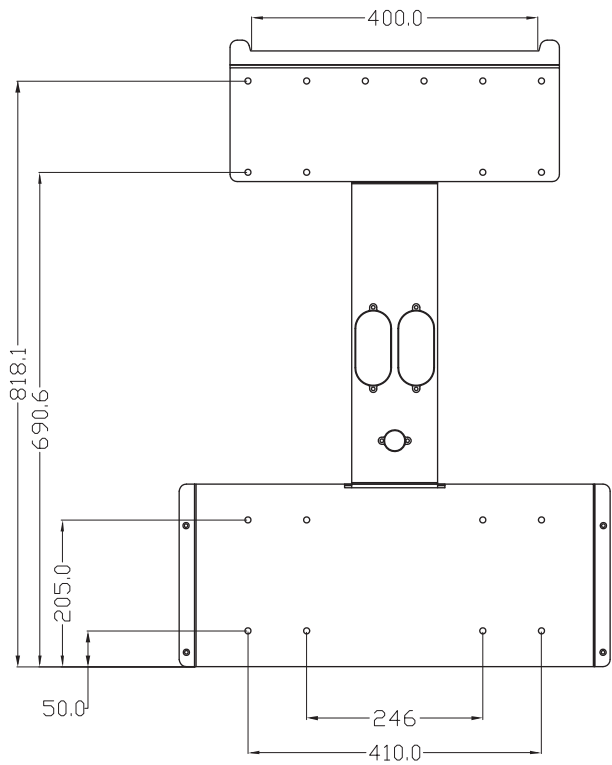

Figure 3-1 : Mounting bracket dimensions
This unit is designed to be wall-mounted. Please ensure that the installation is perpendicular to the floor and the AC and DC terminal are at the bottom position. Please follow the instruction as shown from **Figure 3-1** through **3-3**. First, fix the wall mounting bracket on a solid support surface. Second, please mount the inverter on the bracket securely. Note that **Figure 3-1** through **3-7** should be followed.
1. Screw the wall mounting bracket on the wall with at least 8 M8 Phillips head screws. Please refer to **Figure 3-1** and **3-2** for correct installation.